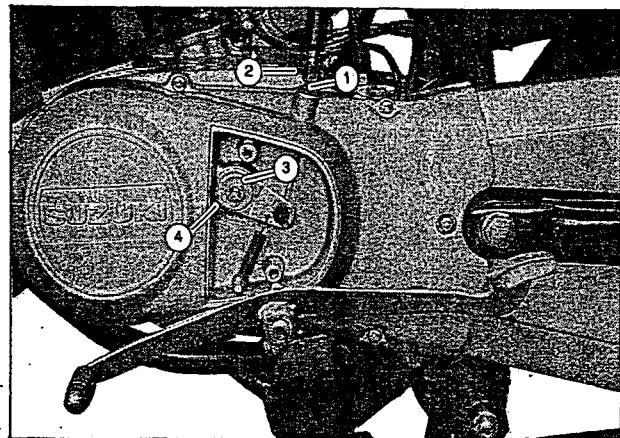
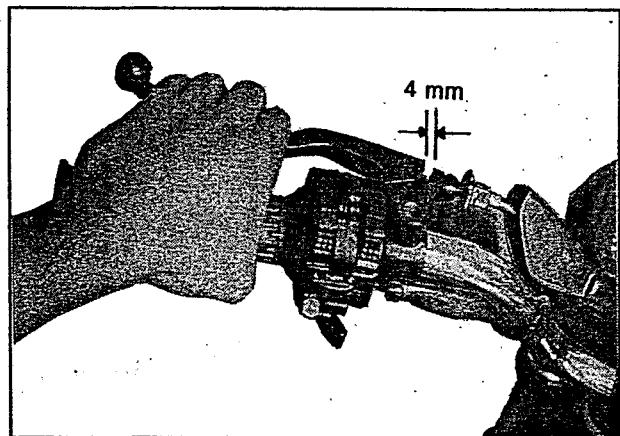

Fig 2.9
Fig 2.10
- Loosen the lock nut (1) (fig 2.9) and screw in the clutch cable adjuster (2) to give sufficient play to the clutch cable.
- Temporarily loosen the lock nut (3) (fig 2.9) and tighten the release adjusting screw (4) until resistance is felt, then loosen it $1/4$ - $1/2$ turn.
- Secure the lock nut (3) (fig 2.9)
- Adjust the clutch cable adjuster (2) (fig 2.9) again until approximately 4 mm of play remains at the bottom of the clutch lever (fig 2.10)
- Secure the lock nut (1) (fig 2.9)